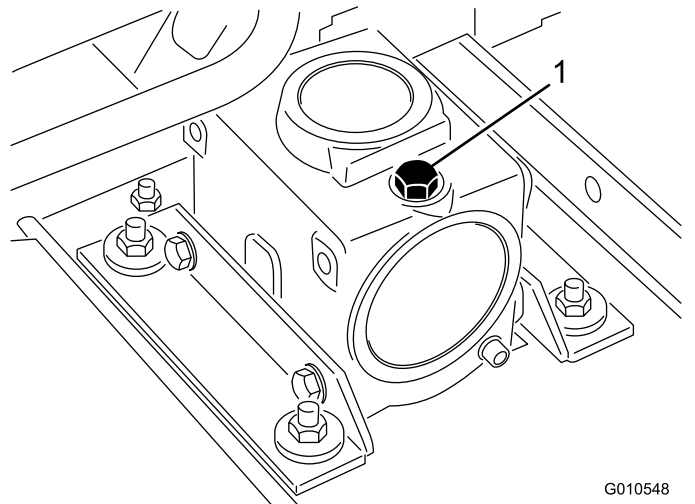

Figure 17
2. Remove the dipstick/fill plug from the top of the gearbox (Figure 17) and ensure that the lubricant is between the marks on the dipstick. If the lubricant level is low, add enough lubricant until the level is between the marks.